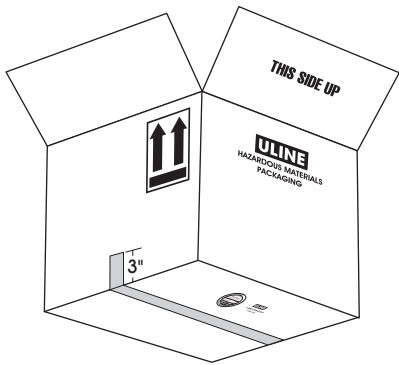

Figure 1
2. Seal bottom of carton down the center seam with one strip of 2" wide (2.6 mil) polypropylene tape (Uline Model # S-14564). The tape must extend 3" over each end of the carton. (See Figure 1)